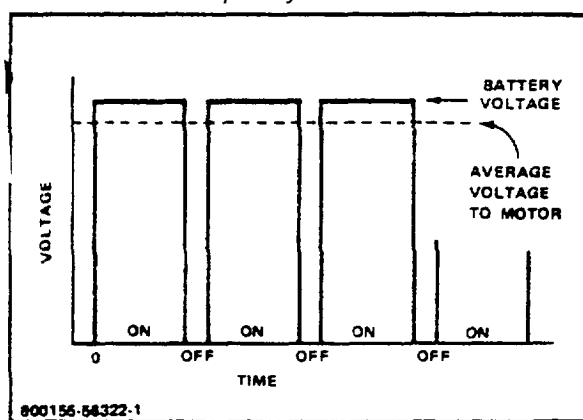
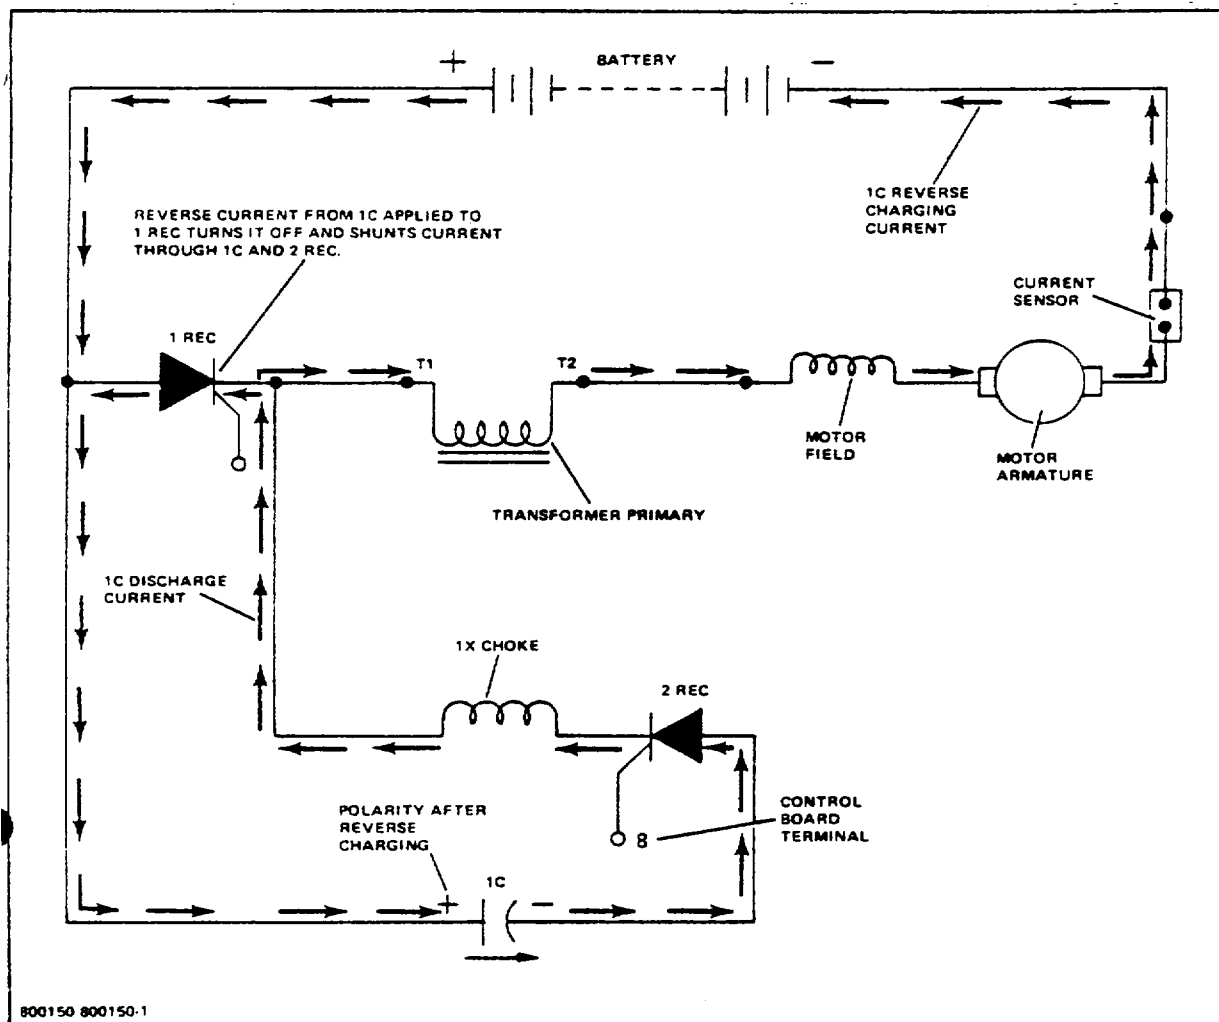

Figure 1-5. Available Voltage With Increased Pulse Width
Figure 1-8. Power Circuit Turn-OFF (2 Rec)
The EV-1 control begins to pulse at 5% of full ON time, and increases the pulse frequency as the accelerator pedal is depressed until the SCR reaches 50 ON time. From this point on, The control increases the pulse width to increase voltage to the drive motor (Fig 1-5). Figure 1-8 shows the relationship of pulse frequency to per cent of ON time (refer to section C for a description of the 1A demand pickup feature shown).
4. Power Circuit Shut-Off (Fig 1-8)